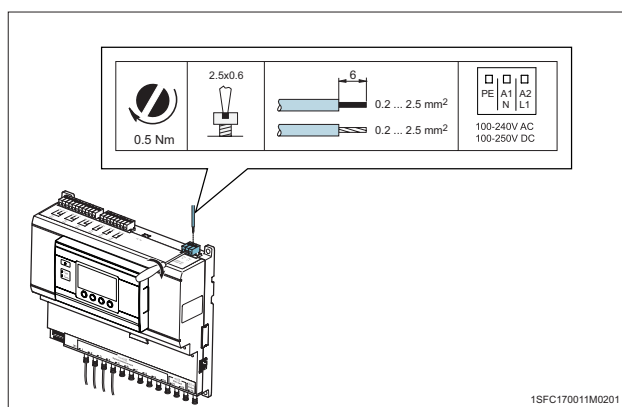

Figure 19
4. Connect the cable for power supply 100-240V AC / 100-250V DC. See **Figure 19**.